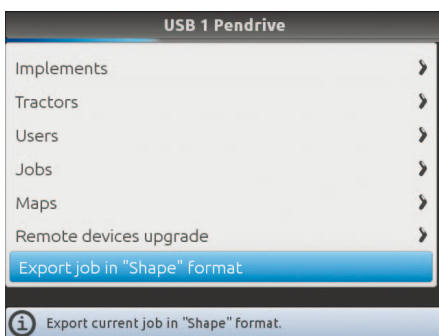

Fig. 311
- Select **Export job in "Shape" format** (Fig. 311) and press **OK**.